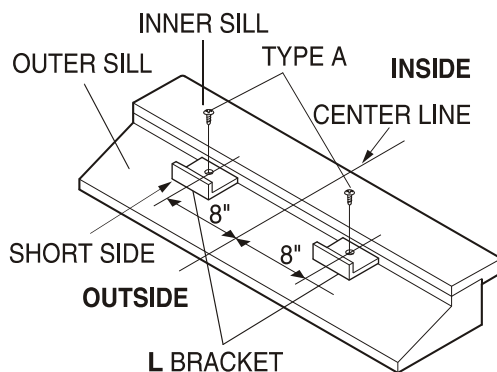

Fig. 9
- b. The bracket helps to hold unit securely in place. Be sure to place bracket edge flush against back of inner sill. See Fig. 9.
- a. Carefully lift the air conditioner and slide it into the open window. Make sure the bottom guide of the air conditioner drops into the notches of the **L** bracket. See Fig. 9.